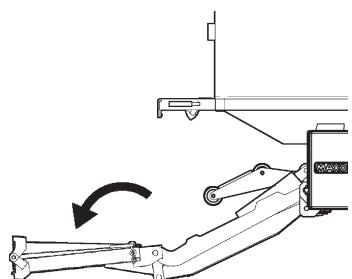

FIG. 15-2A
2. Lower the platform (FIG. 15-2) until it touches the ground. Use handle (FIG. 15-2A) to unfold the platform (FIG. 15-3).